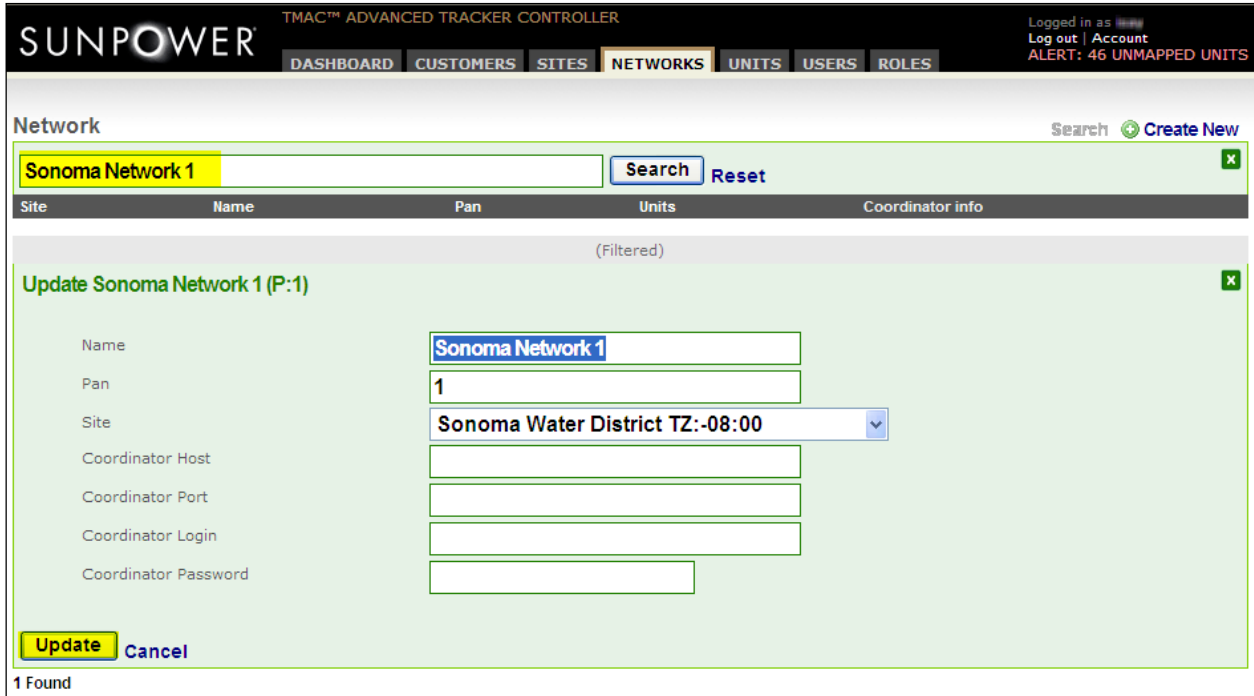

Fig. B69
- c. Enter or select values in the **Update [Network name]** window (Fig. B69).